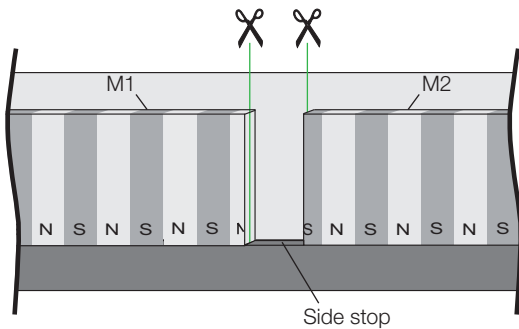
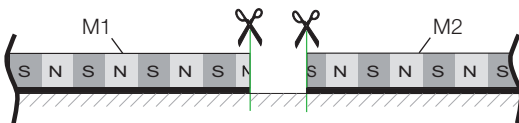
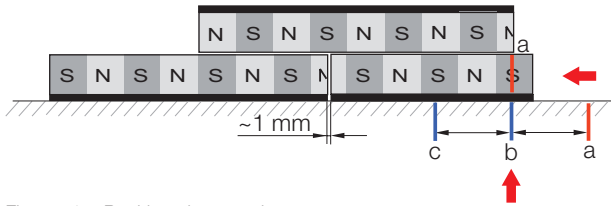

Fig. 4-8: Top view of tape
Fig. 4-9: Side view
Fig. 4-13: Position shortened tape
i The dimensioning shown in Fig. 4-8 to Fig. 4-13 refers to a tape with 5 mm pole width. For 10 mm pole width double the indicated dimensions.
i Cut both ends of the tape straight at the joint (Fig. 4-8 and Fig. 4-9)!
1. Tape M1 is already bonded. Fasten a side stop at the joint so the next tape M2 can be precisely aligned (Fig. 4-8).
- Place the aid tape on tape M1 and move it into a stable position and attach using adhesive tape (Fig. 4-13).
- Move shortened tape M2 towards the joint until the marking (a) on the tape is flush with the marking (b) or (c) on the machine part (Fig. 4-13). The aid tape must now have only one stable position into which it engages. If needed, slide tape M2 to the right or left to find the position with the greatest attraction.